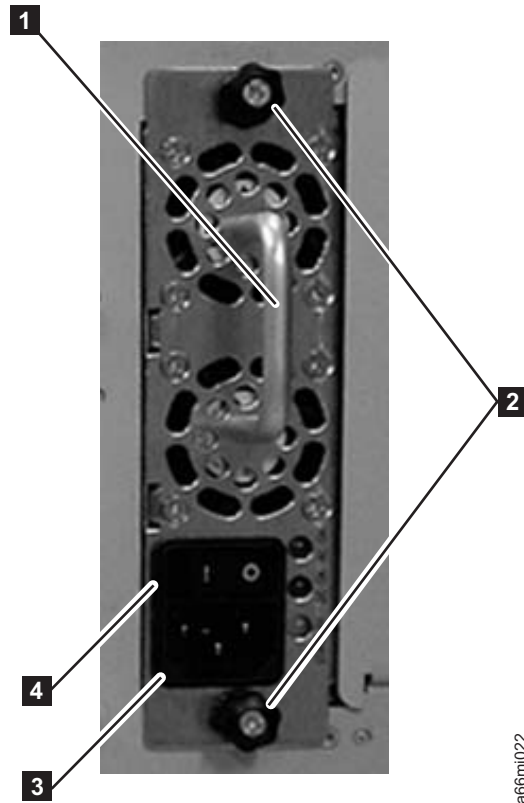

Figure 3-38. Control module power supply
1. Replace the power supply component by sliding it into the power supply slot. First, grasp the handle (**1** in Figure 3-38) while the power supply component is supported from underneath. Then, line up the power supply component with the guides in the power supply slot, and carefully push it into the library.
2. Tighten the two thumb screws (**2** in Figure 3-38) on the power supply component by turning them clockwise.
1. Turn each power supply switch (**4** in Figure 3-38 on page 3-35) to the ON (|) position.